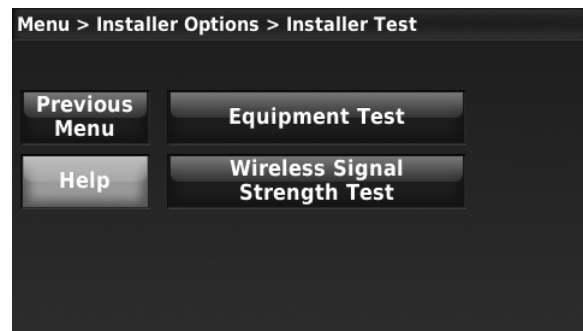

Fig. 61.
1. Press **Equipment Test** on the Installer Test screen (see Fig. 61). Turn the equipment on/off as needed and then press Next Test to test the remaining equipment. The time out for the Equipment Test mode is 30 minutes (if there is no keypress for 30 minutes, the thermostat will automatically exit the Equipment Test).
1. On the Installer Test screen (see Fig. 61) press **Wireless Signal Strength Test**.